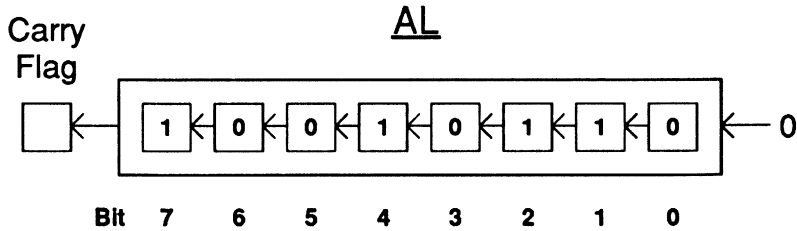

Figure 4.8: Example of a Shift Left
**SHL** (shift left, also known as **SAL**) moves each bit in the destination one place to the left, or toward the most-significant bit. Figure 4.8 shows how the value 10010110b (96h or 150 decimal) stored in **AL** is shifted left with **SHL AL,1**. The result is the value 00101100b (2Ch or 44 decimal), which is stored back in **AL**. The carry flag is set to 1.